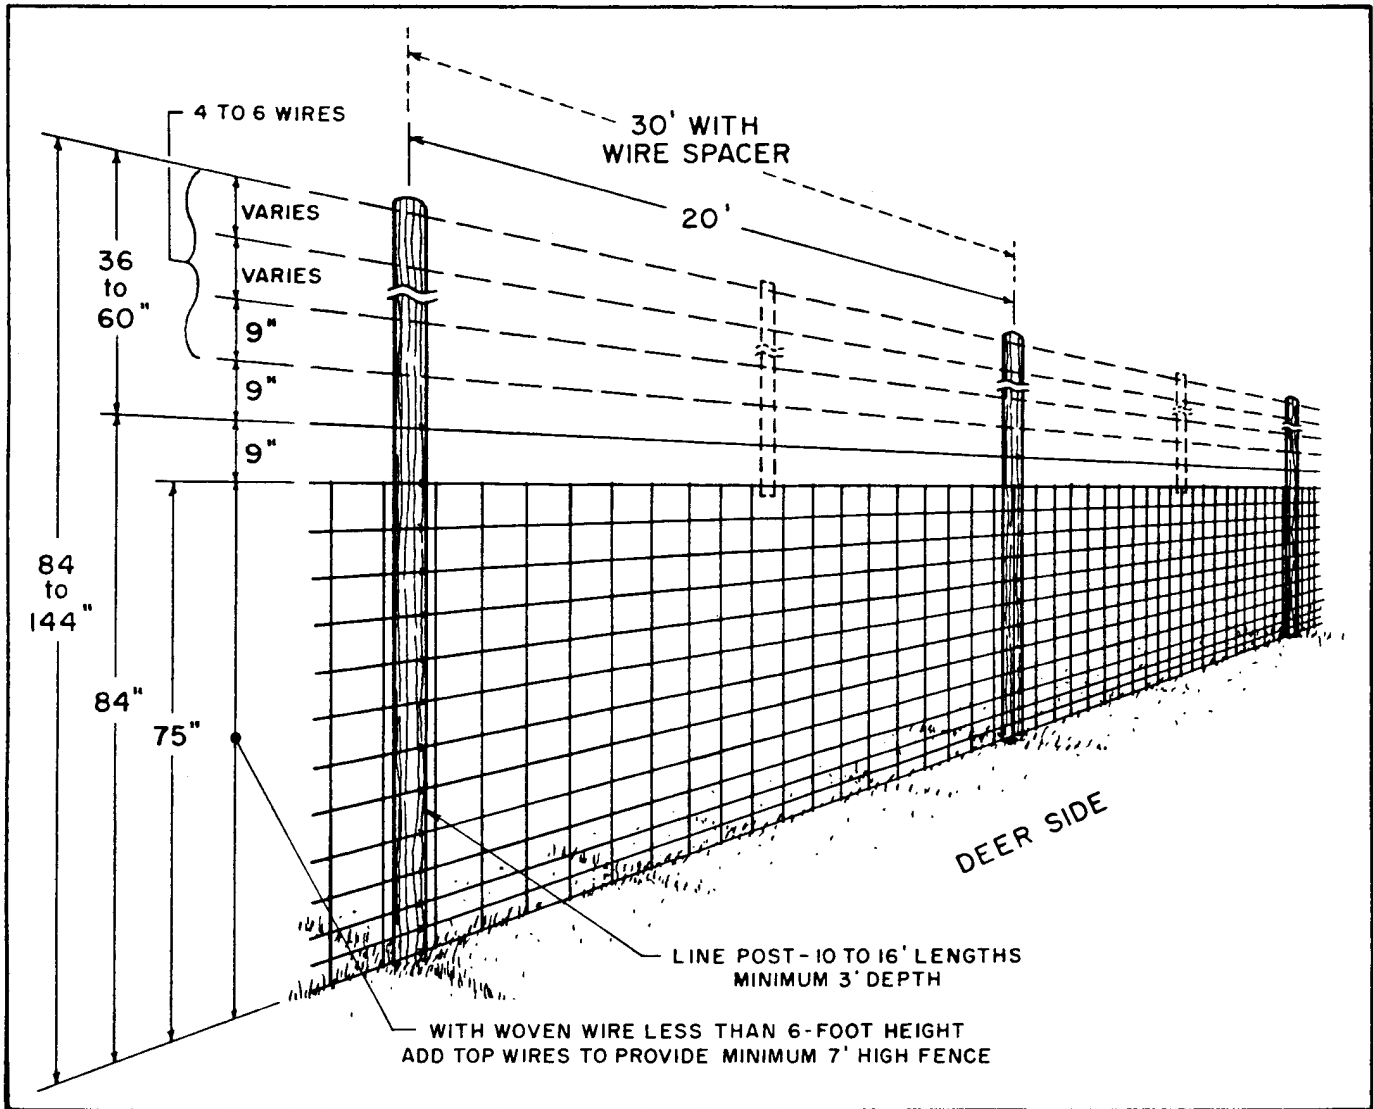

Figure 1. High Tensile and Smooth Wire Non-Electrical Deer Fence
Woven wire fence with out-rigger and barbed wire at top has been used for many years in the U.S. as deer fence for preserves, parks and game farms. High tensile (HT) woven wire fence, originally developed over 10 years ago in New Zealand for deer farming, is now being marketed in the U.S. Considered the ultimate in effective deer fencing, high tensile woven wire is Class III galvanized with 2.5 times heavier zinc coating than the Class I previously used for most fence wire, so it should last considerably longer. HT woven wire is presently available in 49 and 75-inch heights. A minimum of one strand of HT smooth wire is recommended on top the woven wire and total fence height should be no less than 84 inches for low to moderate deer pressure (Figure 1). Additional wires are added to provide up to a 12-foot fence. As expected, cost is higher than other types of anti-deer fence—both material and construction labor. However, less maintenance is required.
Depending on fence height desired, 4 to 6 wires are used in addition to the one wire recommended to always be placed on top of HT woven fence (Figure 1). The additional wires are tied off with two crimping sleeves or wire knots and stapled in position on end post following stapling procedure discussed above. A wire space marking stick is convenient for marking wire location on posts. Wires are run out to end of run and pulled taut by hand or with the chain wire puller. Initial tautness will depend on length and straightness of run and terrain—judgment is needed to determine allowance for dips. Temporary tie-off may be
For line post spacing of 30 feet, PPT hardwood wire spacers (battens) are installed between posts (Figures 1 and 9). The bottom of the wire spacer is attached to the top strand of the woven wire.